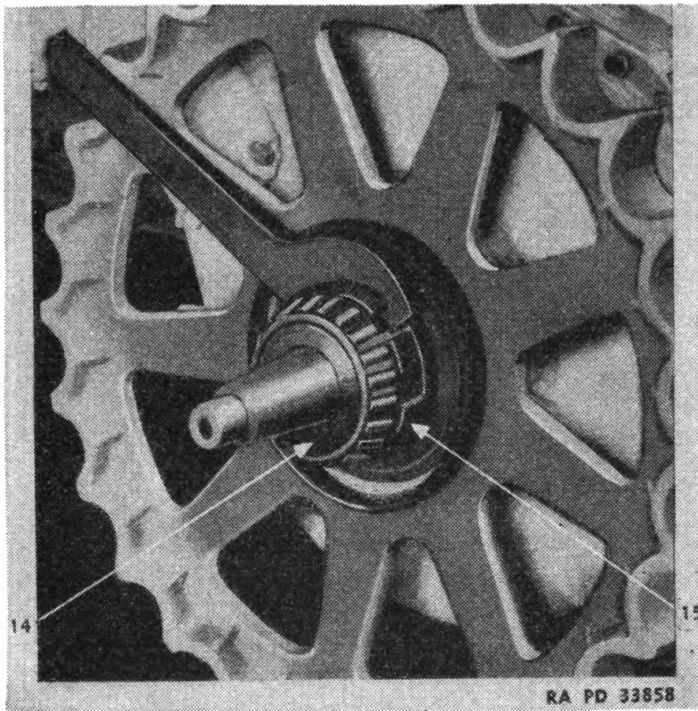

FIGURE 141.—Method of bearing removal.
(3) The bearing (14) (fig. 141) can be crowded off the hub by loosening sprocket retaining nut (15) with wrench (1B4641). Inasmuch as there is insufficient threading on the sprocket hub to force